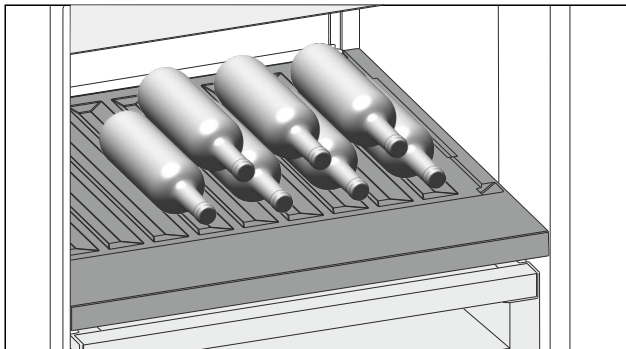

Fig. 85 Example illustration
- ▶ Place bottles in the back row with their bases against the back wall. (see Fig. 85)